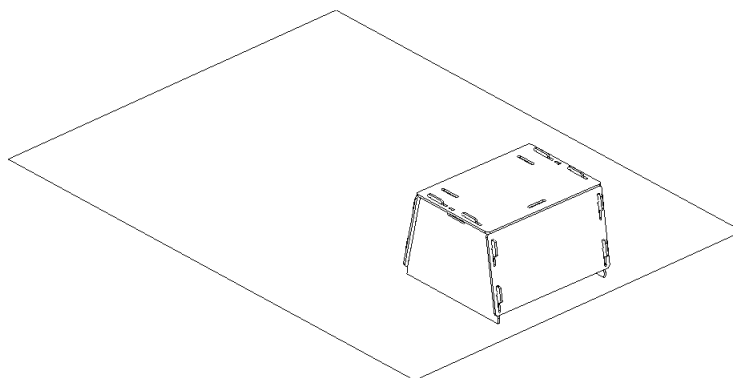

Figure 134: Scanner stand resting on a pattern.
2. Align the scanner stand with the rectangle marked on the pattern, paying close attention to the orientation of the slots in the stand cover (see Figure 134).